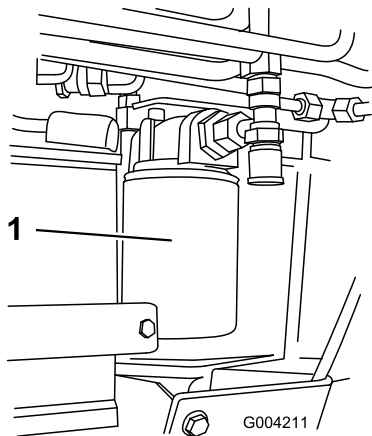

Figure 51
4. Place a drain pan under the filter (Figure 51).
5. Remove the old filter (Figure 51) and wipe the surface of the filter adapter gasket clean.
7. Install the replacement hydraulic filter onto the filter adapter (Figure 51). Tighten it clockwise until the rubber gasket contacts the filter adapter, then tighten the filter an additional 3/4 turn.